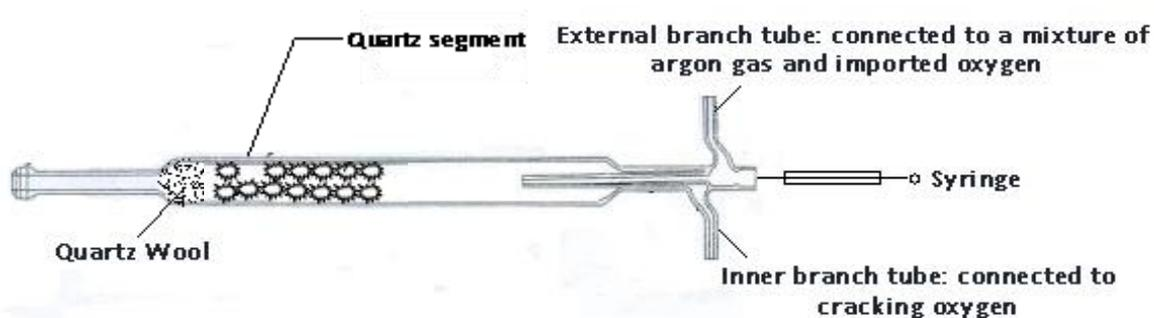

Fig.4-9
(1) Clean oil quartz pyrolysis tube (Fig.4-9)